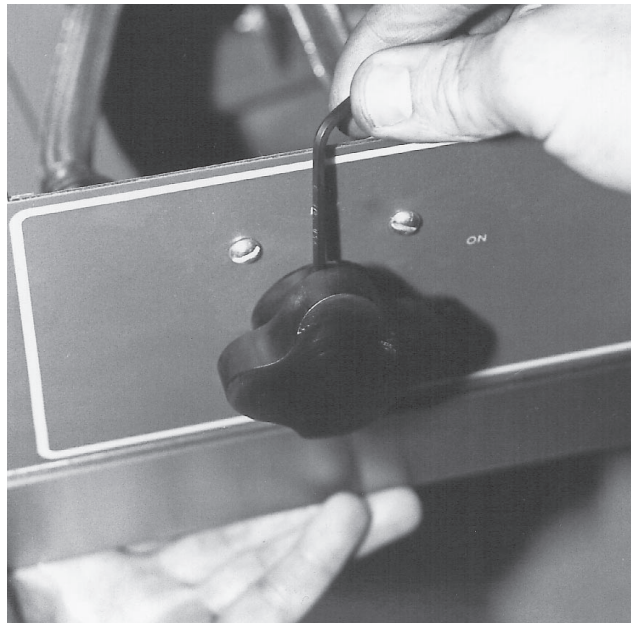

Fig. 12
4. With a $\frac{1}{8}$ " size allen wrench, loosen the hot and cold water control knob set screws. (Fig. 12)